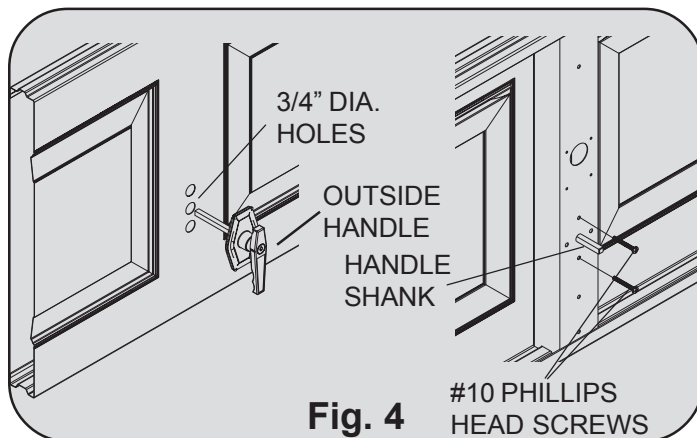

Fig. 4
8000/PR9000 & PR9050 Series doors (see Fig. 4), align the outside handle assembly with the handle pointing towards the floor and insert the assembly through the previously drilled 3/4" diameter holes in the section. Secure the outside lock handle to the section with (2) #10 phillips head screws.